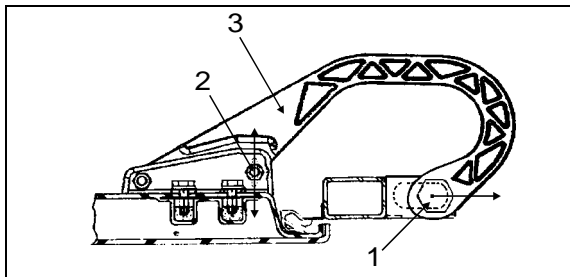

FIGURE 74: DOOR HINGE
2. Loosen nut (1, Fig. 74).
3. Move part (3, Fig. 74) as shown in figure for "LEFT or RIGHT" adjustment.
4. Tighten nut (1, Fig. 74).
5. Loosen nut (2, Fig. 74).
- Loosen screws (3, Fig. 74). Screws allow the door to be shifted "UP or DOWN".